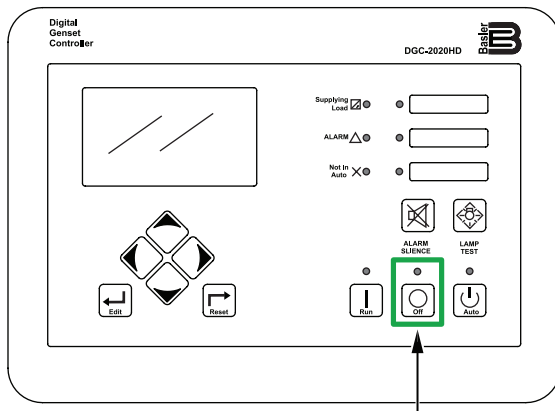

Figure 58. Digital Controller (OFF Button)
3. Press the **OFF button** on the digital controller (Figure 58) on each generator in the paralleled system. Each engine will stop after a 1-minute cool-down process.
2. Press the **OFF button** on the digital controller (Figure 58) on each generator in the paralleled system. Each circuit breaker will automatically turn **OFF** and each engine will stop after a 1-minute cool-down process.